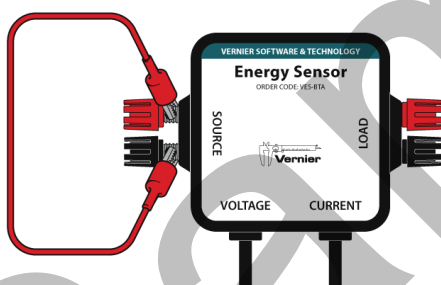

Figure 1
- Connect the Energy Sensor Source terminals to each other with a wire lead, as shown in Figure 1. **Note:** The color of the wire lead is not important; any color will work.